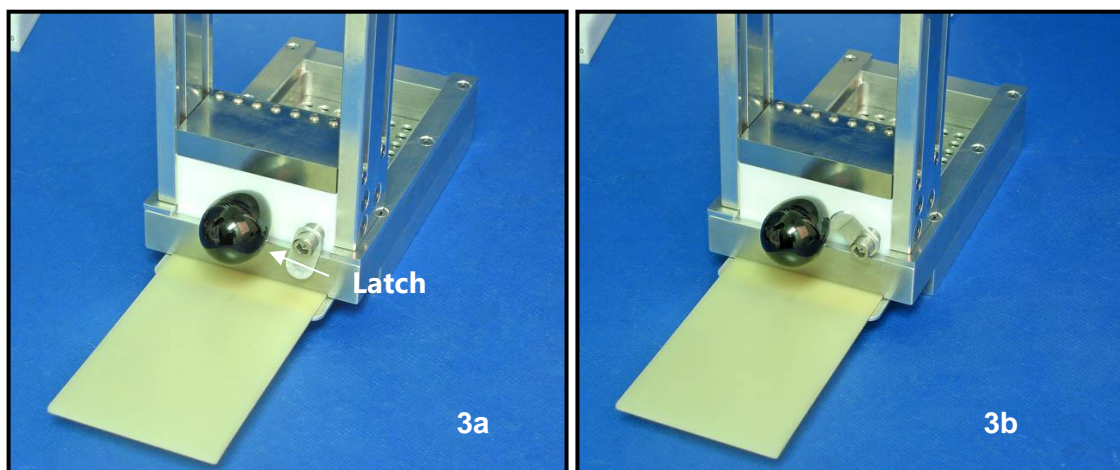

Figure 3. (a) Secure the Loading Jig to the end of the Dispenser using the latch. (b) Release the Loading Jig latch
1. Move the Loading Jig of the dispenser into the loading position as shown in Figure 3. The retaining lid now is hanging past the edge of the body of the dispenser.